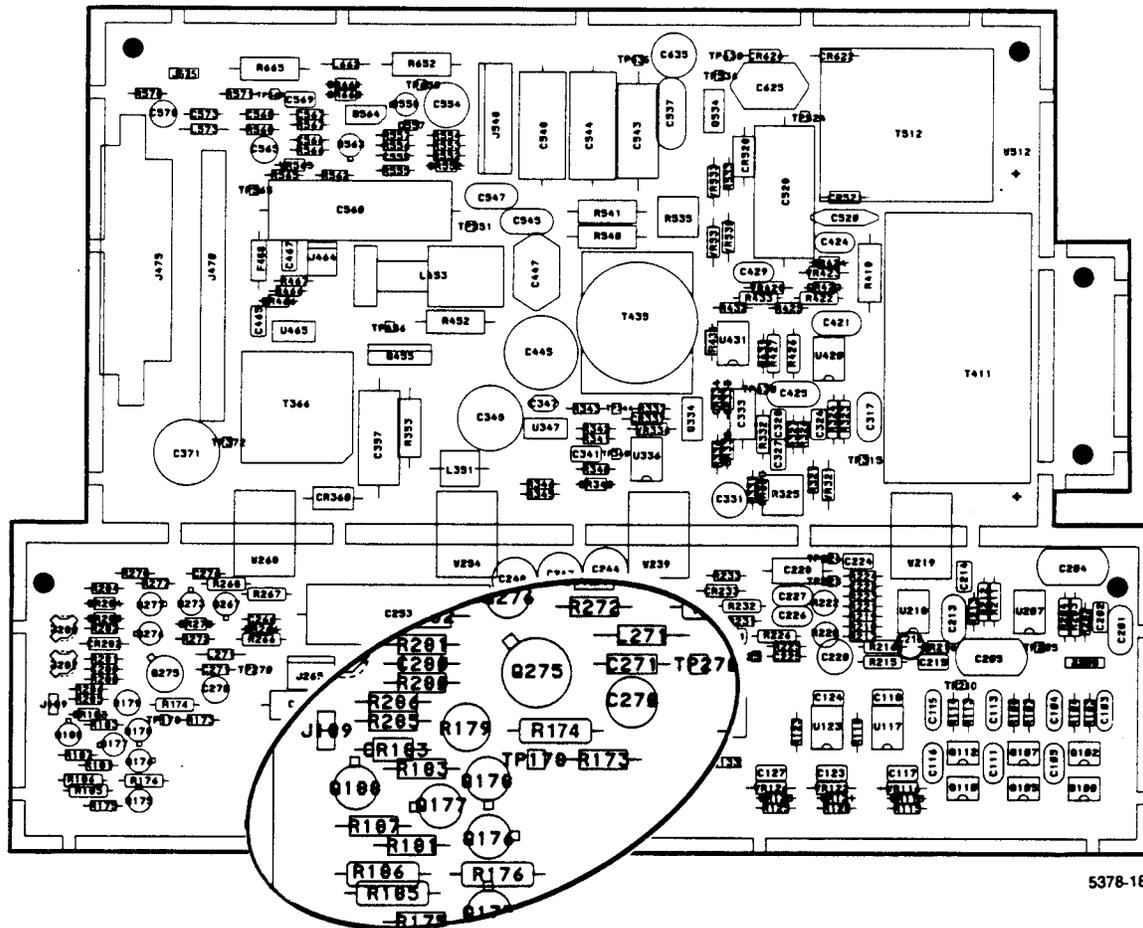

Figure 5-5. Expanded view of the CRT Drive Board shows components used in the External Trigger Adjust.
2. Set the DMM to the 200 mV range. Connect the DMM high lead to TP178 and the low lead to TP270 (GND). Refer to Figure 5-5.